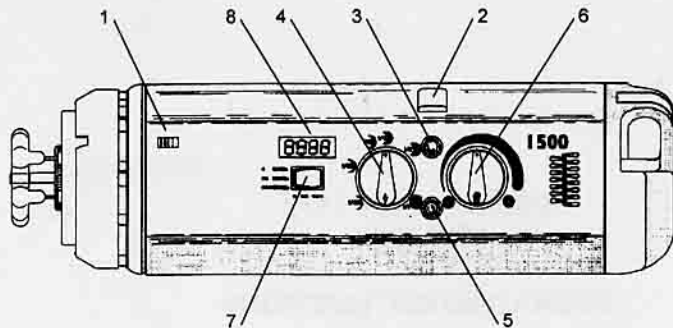

Fig.2
- Open Flash: (Fig.2. 5)
- Photocell: (Fig.2. 2)
- Rotating the control (Fig.2. 4) from full to half, half to quarter, quarter to eighth, eighth to sixteenth, sixteenth to thirty-second gives a reduction in output equivalent to 1 f stop for each step.
- The modelling and flash circuitry is protected by a single 10 amp (T) 20mm fuse mounted on the rear panel. Never replace the fuse with one of a different rating. As the fuse may blow when the modelling lamp fails always check the fuse when replacing the bulb, a spare fuse is supplied in the fuse holder. Always switch OFF the Esprit 2 unit before changing the bulb or fuse.
- To remove reflector, push Latch Knob (Fig.2. 1) towards the rear of the unit, turn the reflector fully anti-clockwise and withdraw.